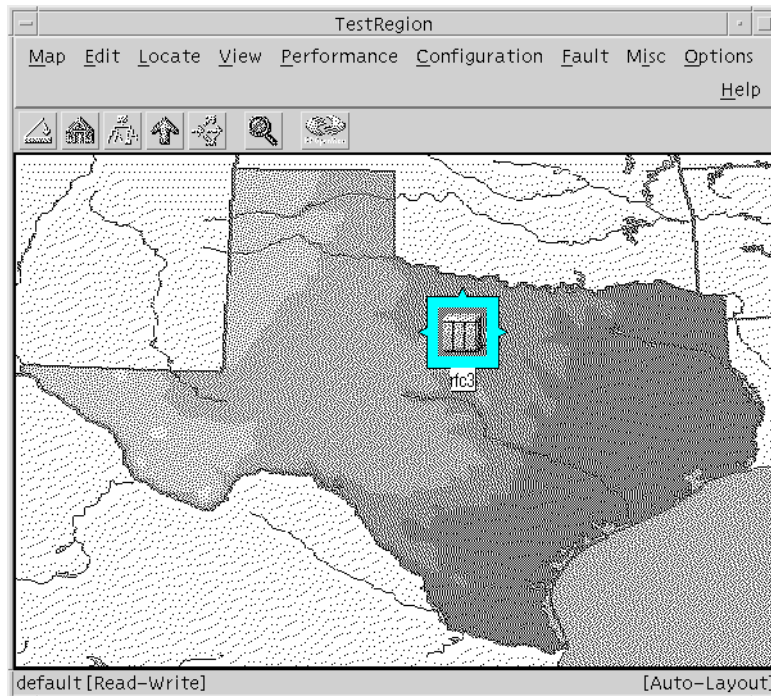

Figure 4-8: Region Window
4. Label the RFC symbol with its selection name in the Add Object dialog box. The example uses **rfc3** for the selection name (see Figure 4-8).